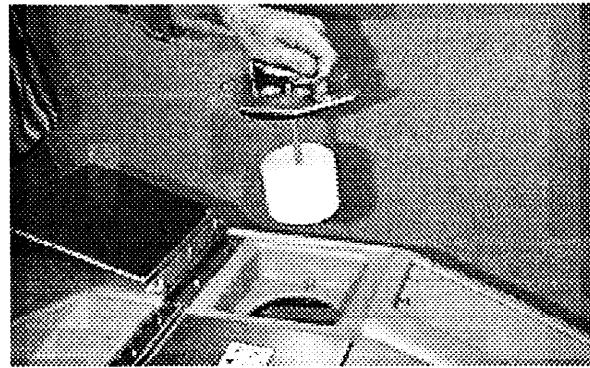

FIG. 35.
3. Remove and rinse the float shut-off assembly located in recovery tank. (Figure 35)